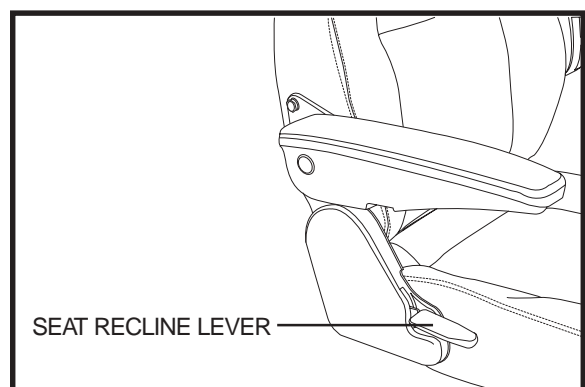

Figure 16A. Seatback Adjustment
1. Pull up on the seat recline lever to unlock the seatback. See figure 16A.